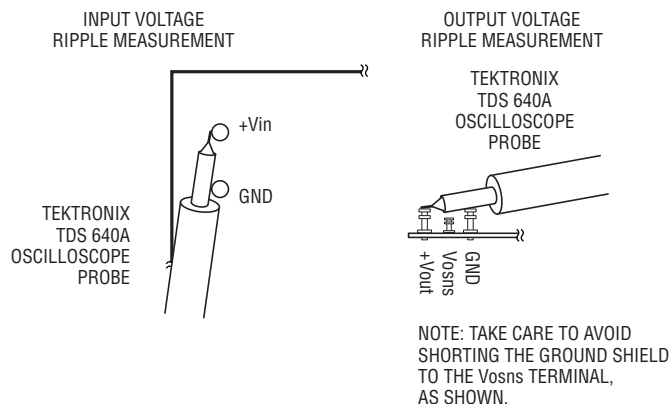

Figure 2. Oscilloscope Probe Technique for Measuring Input and Output Ripple
5. The output ripple voltage can be measured with an oscilloscope at the output terminals. The most accurate measurements require that the scope probe tip sleeve be removed. The ground shield is placed against the ground terminal, with the probe tip touching the VOUT terminal, as shown in Figure 2. (Note: take care to avoid shorting the ground shield to the Vosns terminal, as shown in the figure.) The resulting ripple voltage will have a switching frequency sawtooth waveform that is $< 50\text{mV}_{\text{P-P}}$ and voltage spikes at each MOSFET turn-on and turn-off. These spikes are normal and do not have very high energy content. Small decoupling capacitors at the load circuit are usually sufficient to completely suppress the high frequency spikes.